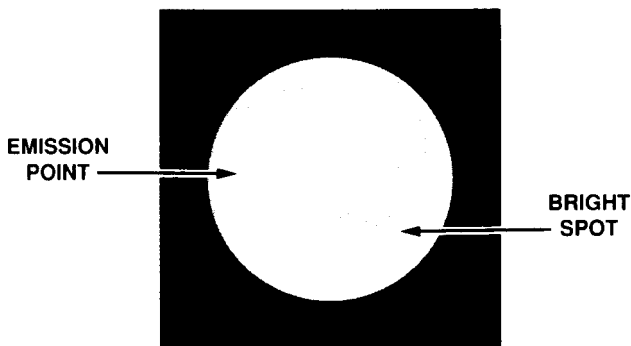

Figure 2-14. Bright Spots and Emission Points.
c. Bright Spots. These are cosmetics defects in the image intensifier. A bright spot is a small, nonuniform, bright area that may flicker or appear constant (Figure 2-14). Not all bright spots make the goggle unacceptable. Cup your hand over the objective lens to block out all light. If the bright spot remains, it is an emission point. Bright spots usually go away when the light is blocked out and are cosmetic defects. Bright spots are acceptable if they do not interfere with the ability to perform the mission. If bright spots do interfere, return the goggle to maintenance for evaluation.
d. Emission Points. A steady or fluctuating pinpoint of light in the image area that does not go away when all light is blocked from the objective lens (see Figure 2-14). The position of an emission point within the image area does not move. Not all emission points make the goggle unacceptable. Emission points are acceptable if they do not interfere with the ability to perform the mission. If emission points do interfere, return the goggle to maintenance for further evaluation.